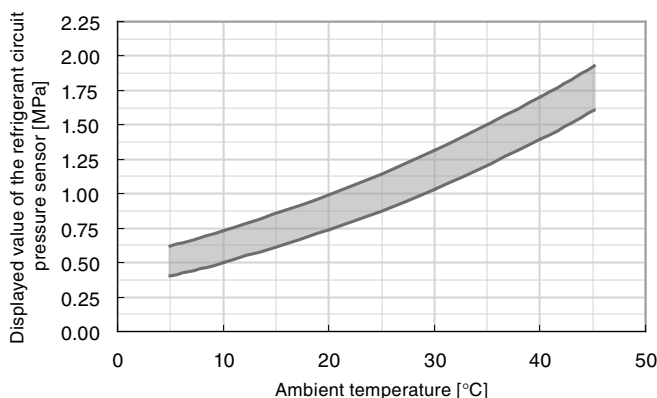

Fig. 4-35 Ambient temperature and refrigerant circuit pressure
- (1) Leave the Thermo-Chiller not operating for 24 hours to make the ambient temperature and the temperature inside the Thermo-Chiller the same.
- (2) Check the ambient temperature.
- (3) Check the “Ph: Refrigerant circuit pressure on the high pressure side” value in the “Check Monitor Menu”.
- (4) Check if the value at the cross point of the ambient temperature and the “Ph: Refrigerant circuit pressure on the high pressure side” value is within the range (the shaded part) in Fig. 4-35. If the cross point is within the range, it means that the pressure sensor is operating correctly.
- (3) Check “PL: Refrigerant circuit pressure on the low pressure side” value in the “Check Monitor Menu”.
- (4) Check if the value at the cross point of the ambient temperature and the “PL: Refrigerant circuit pressure on the low pressure side” value is within the range (the shaded part) in Fig. 4-35. If the cross point is within the range, it means that the pressure sensor is operating correctly.